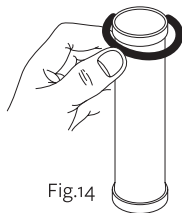

Fig.14
- Force the ring a little tighter in order to grip the part of the seal that is exposed and pull it out of its groove (Fig. 14);